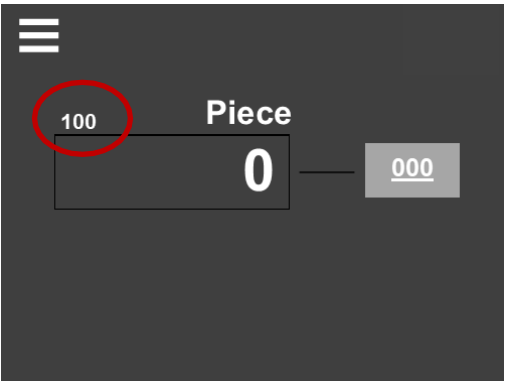

Figure 8.4.3
- 5. The entered quantity is displayed on the production screen. See Figure 8.4.3.